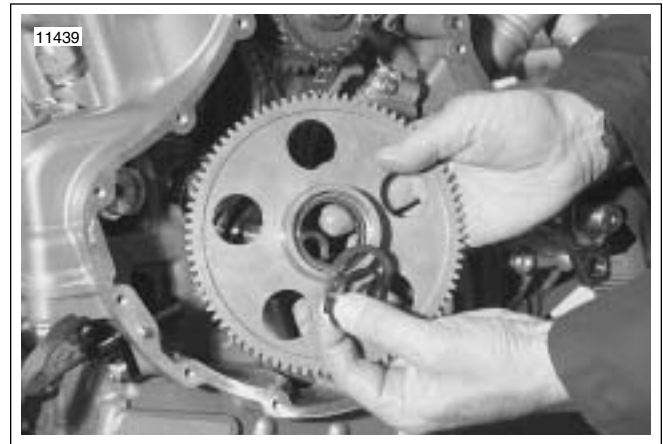

Figure 3-27. Snap Ring and Ball Clutch Gear
16. See Figure 3-27. Slide snap ring, washer, and ball clutch gear with needle roller and cage assembly off of crankshaft.